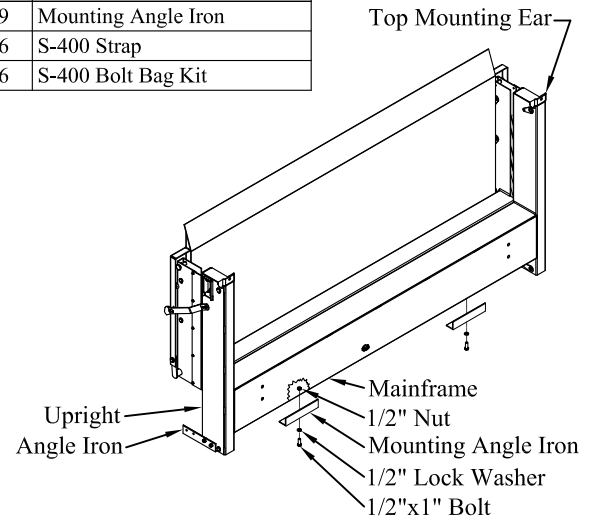

Figure 3: Complete Liftgate.
- 4. Install** the (2) mounting angle irons to the bottom of the liftgate (Figure 3).
- 6. Unbolt** and **Save** the two (2) angle irons attached to the liftgate uprights - **G²** only (Figure 3).